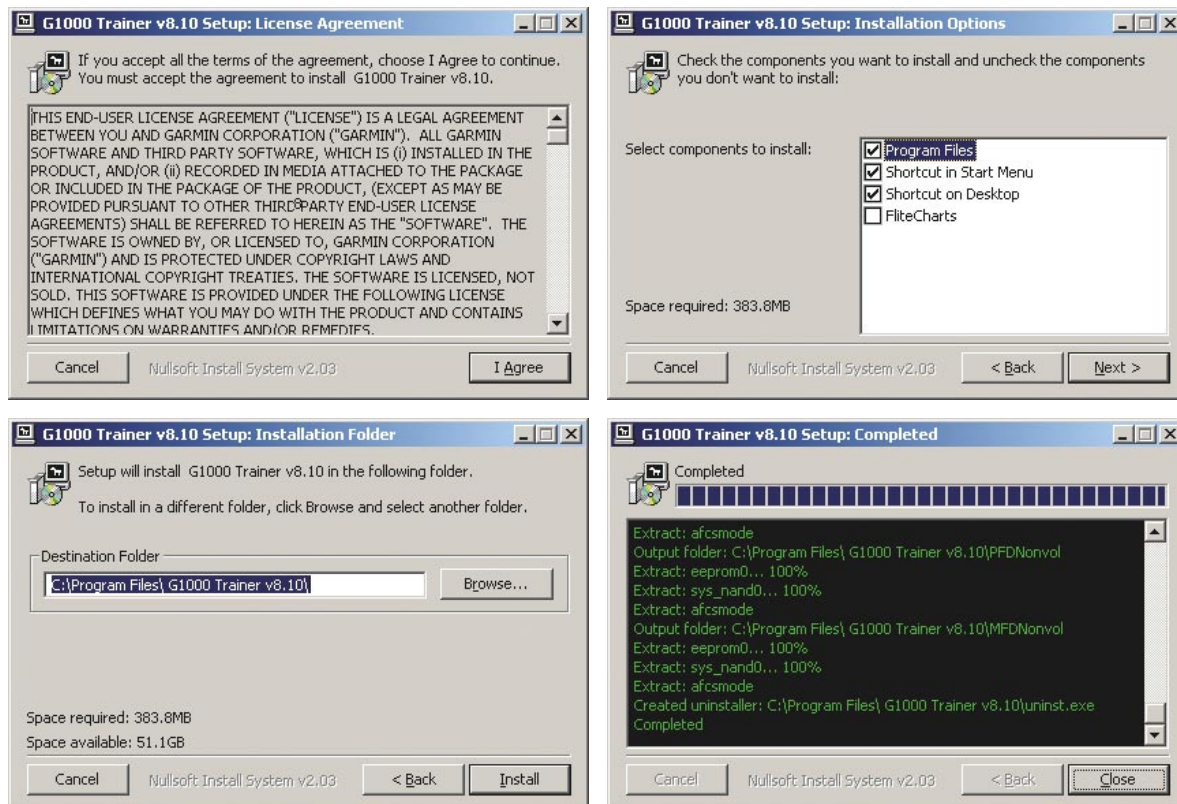

Figure 2 Installation Process (Example)
- 3) Follow the on-screen prompts to install this software application (see Figure 2, left to right).